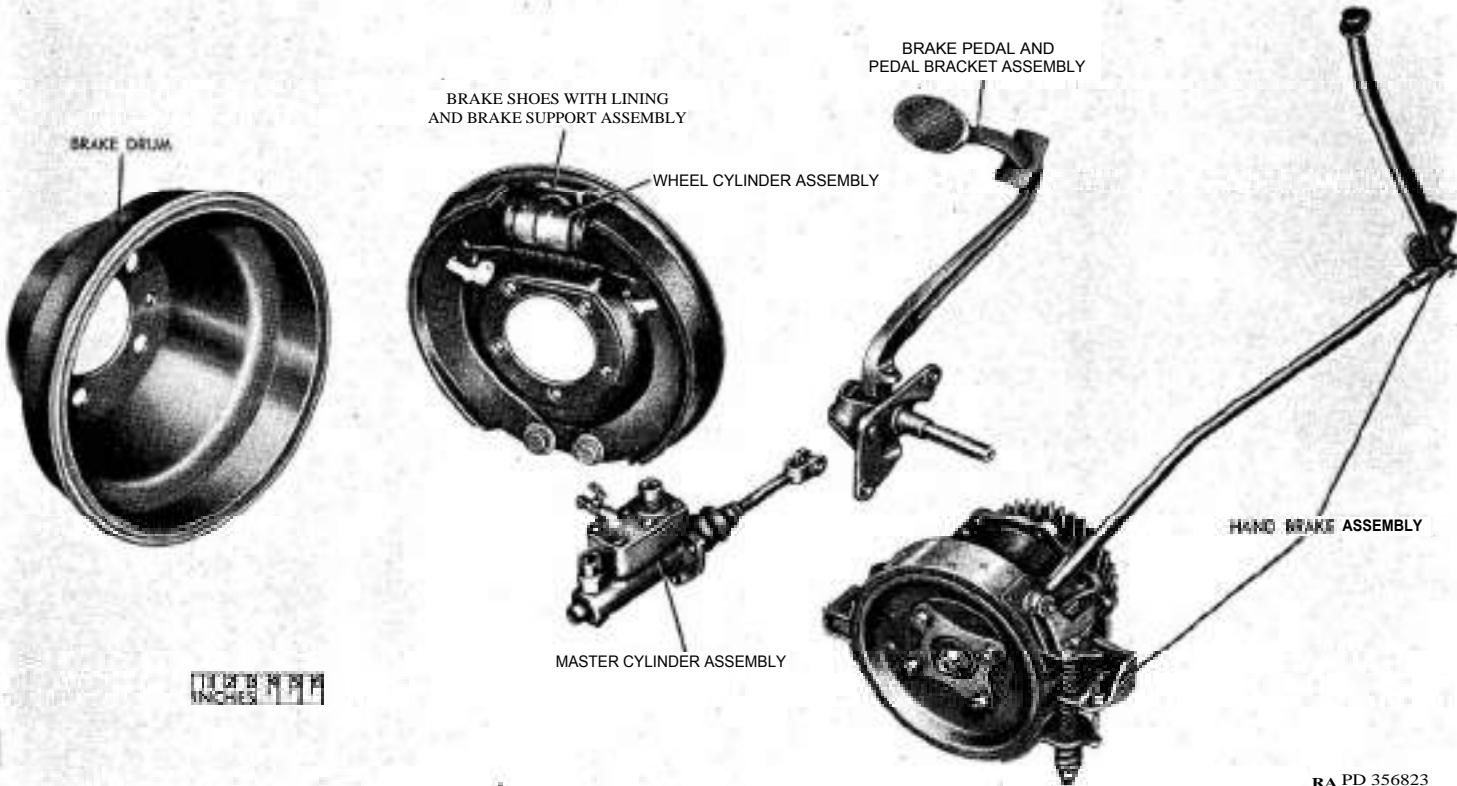

Figure 147. Brake system major components.
a. Hand Brake Assembly (fig. 147). The hand brake assembly consists of an external-contracting steel band equipped with compressed woven lining, which operates on a cast iron drum at rear of transfer assembly. Control of hand brake assembly is provided by a lever in driver's compartment. The brake band is adjustable to compensate for lining and drum wear.
b. Service Brake Assemblies (fig. 147). Internal-expanding hydraulic service brake assemblies are provided on all four wheels. They consist of steel brake shoes that are equipped with tapered, woven, and molded linings, which operate against cast iron brake drums attached to the hubs and wheels. Control of the brake assemblies is accomplished by a brake pedal in the driver's compartment. The pedal is attached to the master cylinder, which forces fluid to the wheel cylinders for actuation of the brake shoes when brakes are applied.
The brake system (fig. 147) is divided into five subassemblies : hand brake assembly ; brake shoes with lining and brake support assemblies, including brake drums ; wheel cylinders, master cylinder; and brake pedal and pedal bracket assembly. The following procedures are based on the assumption that the master cylinder is removed from the vehicle. It is also assumed that the transfer assembly and axles, to which the hand and service brake assemblies are attached, are also removed from the vehicle.